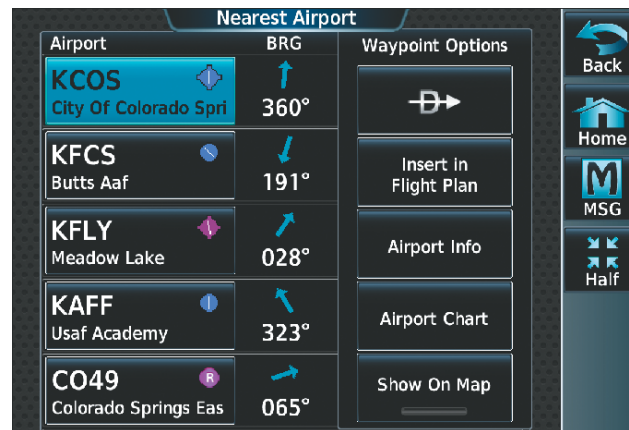
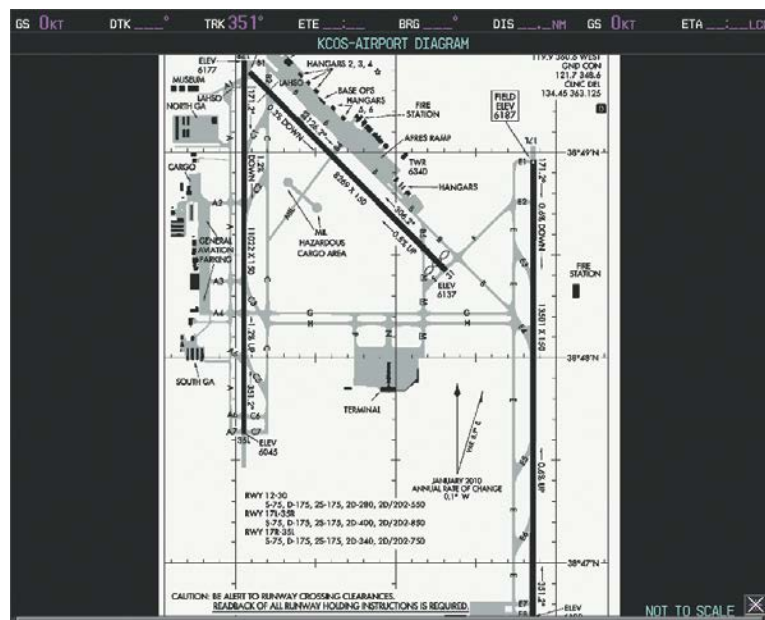

Figure 8-22 Airport Diagram Selection
Figure 8-23 Airport Chart for Selected Airport
- 2) Touch the desired airport button. KCOS is selected in Figure 8-22. The **Waypoint Options** buttons are now displayed.
- 3) Touch the **Airport Chart** Button. The **Info** Tab selections are displayed on the Touchscreen Controller (Figure 8-22) and the Airport Diagram is displayed on the selected Display Pane (Figure 8-23).